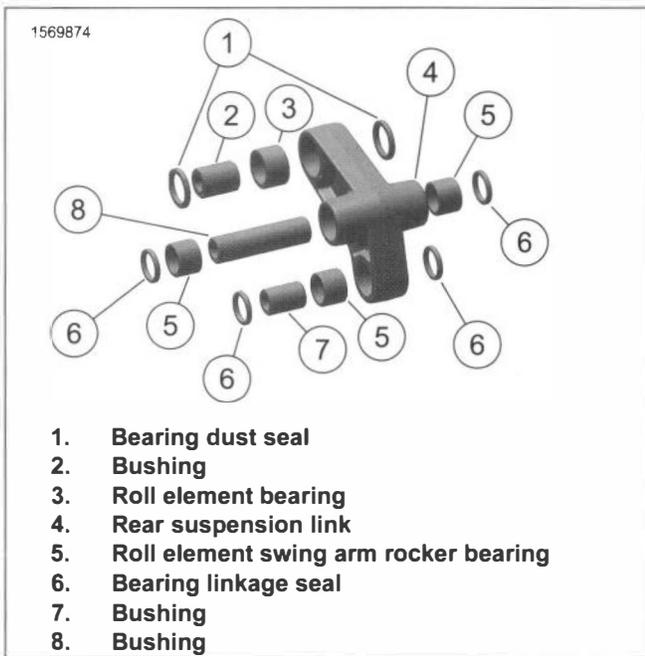

Figure 3-75. Rear Suspension Link
1. See Figure 3-75. Push to remove bushing (2, 7, 8).
2. See Figure 3-75. Using suitable tool, press bearings in (3, 5) until each bearing is centered in link.